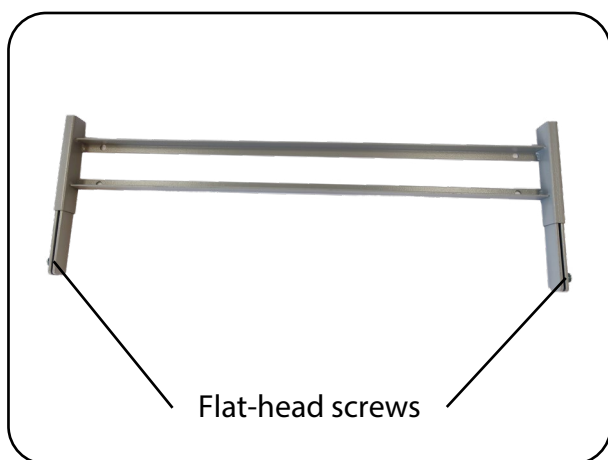

Fig. 6.6.01 – Bed extension for metal mesh
- 1 x bed extension, foot end, metal mesh or sprung slats (Fig. 6.6.01)
- 2 x M8 x 14 flat-head screws, installed in bed extension (Fig. 6.6.01)
1. Remove the two flat-head screws from the bed extension (Fig. 6.6.01).